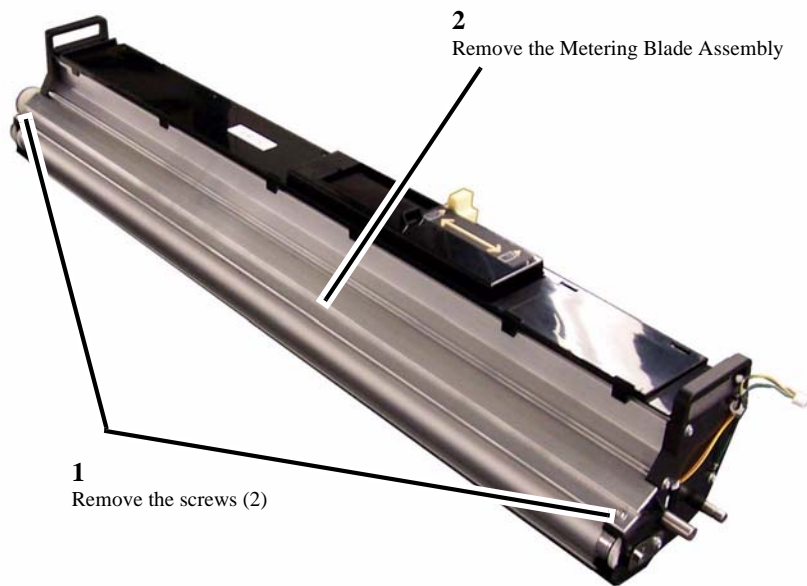

Figure 1 Metering Blade Assembly removal
4. Remove the Metering Blade Assembly (Figure 1).
- a. Remove the screws (2).